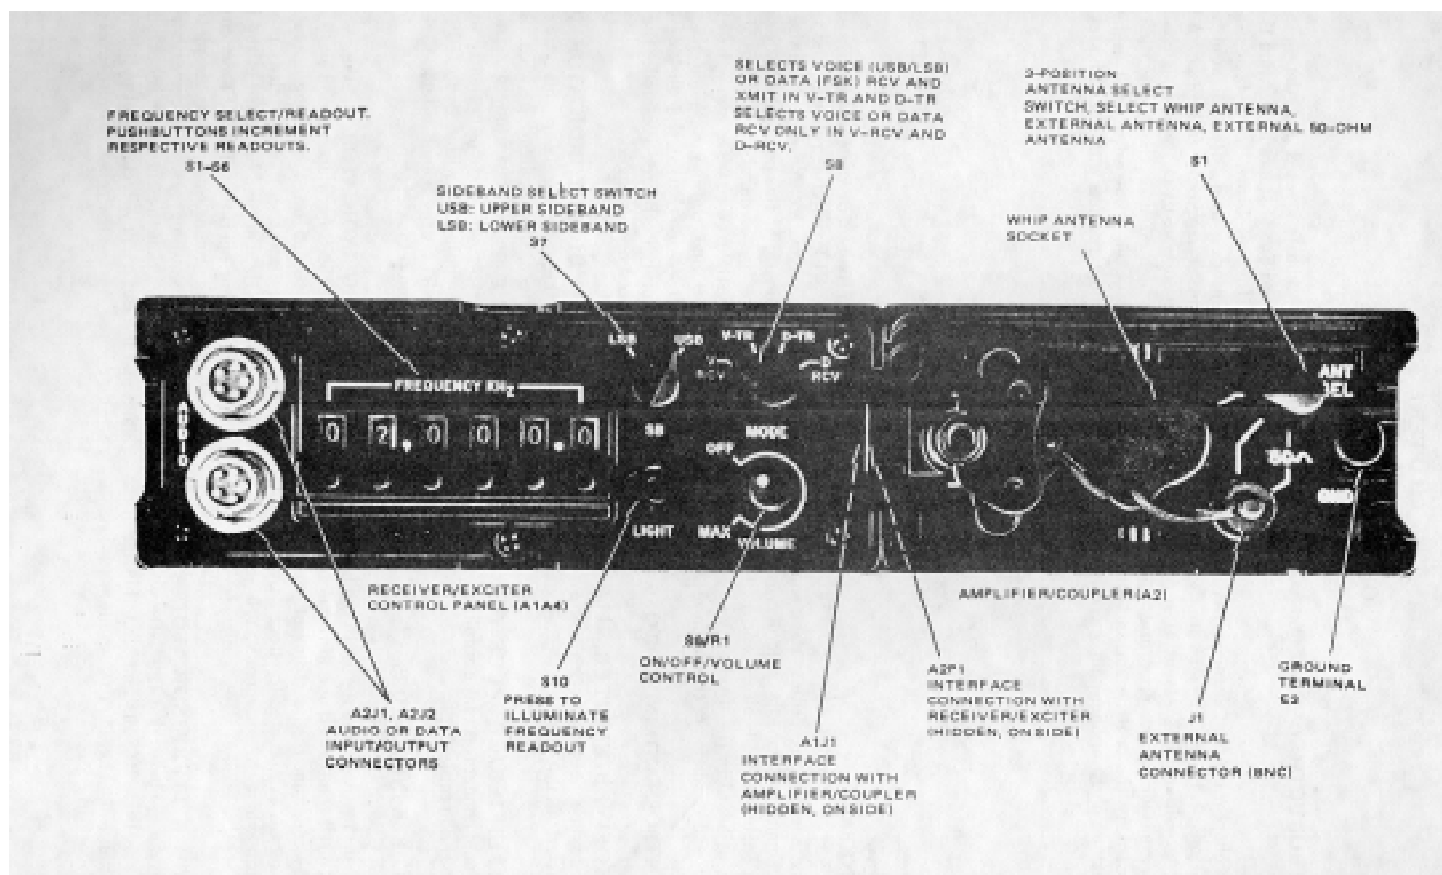

Figure 2-1. AN/PRC-104 Controls and Indicators
**1-27.** Perform the following test procedure for initial checkout of the radio set in an operating environment. If any of the results are abnormal refer to the troubleshooting procedure in chapter 4. Refer to figure 2-1 for location of controls and indicators.
**2-6. RECEIVER/EXCITER.** The controls, indicators, and connectors of the receiver/exciter (fig 2-1) are listed in table 2-1.
**2-7. AMPLIFIER/COUPLER.** The controls, indicators and connectors of the amplifier/coupler (fig 2-1) are listed in table 2-2.